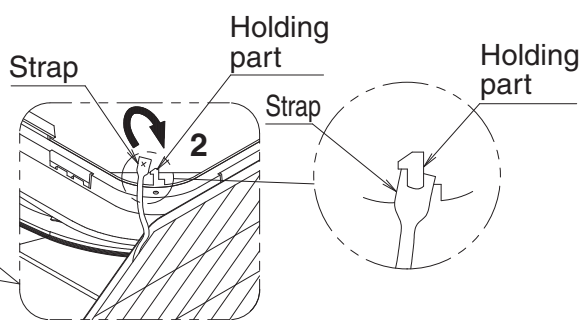

Fig. 11
- 2 Hook the strap of the suction grille into the holding part of the decoration panel after the strap is turned around as shown in the figure below (2 locations). **(Refer to Fig. 11)**